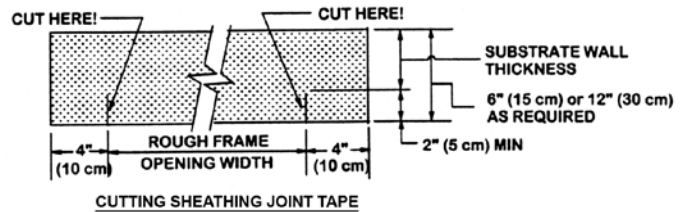

Fig. 10.3
- Cut a piece of ParexUSA 396 Sheathing Tape 8 in. (203mm) longer than the rough opening. Embed Sheathing Tape into ParexUSA WeatherSeal and install on the sill and up the jambs with at least 2 in. (51mm) protruding to the outside of the opening. Make a cut at each corner to form three "flaps" (Fig 10.3).